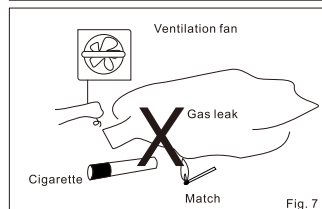

Fig. 7
- Do refrain from turning an electric switch on or off, lighting a match, or using a lighter.(Fig. 7)